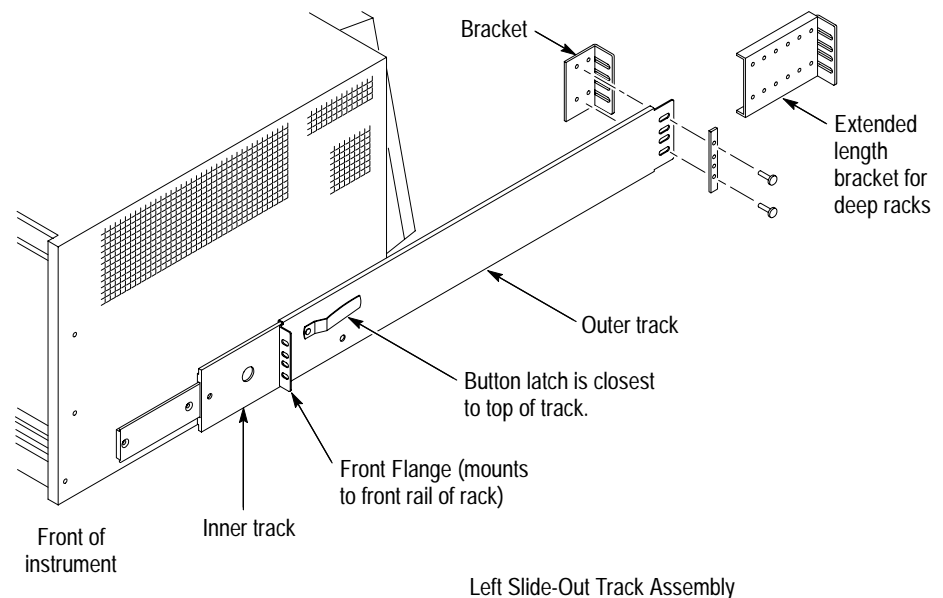

Figure 1-7: Assembling the slide-out track assemblies
3. Align the rear bracket to the right slide-out track as shown in Figure 1-7. Note that the rear bracket has two pairs of mount-through holes. When aligning the bracket and the track, select a pair of holes that mount the rear bracket so the flange-to-flange distance (see Figure 1-7) matches the front rail to rear rail spacing that you just measured in step 2.
4. Attach the rear bracket to the right slide-out track using two 10-32 screws and a bar nut as shown in Figure 1-7. Leave the screws loose so that you can adjust the overall length of the slide-out track assembly when installing the mainframe in the rack. Use the extended length brackets to comply with deeper rackmounts.